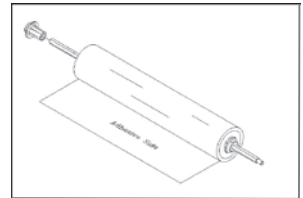

Figure 10
4. Insert the film shaft into the roll of film from the right side with the copper end last. Align and insert the core adapter on the left end of the film core. (Fig. 10)